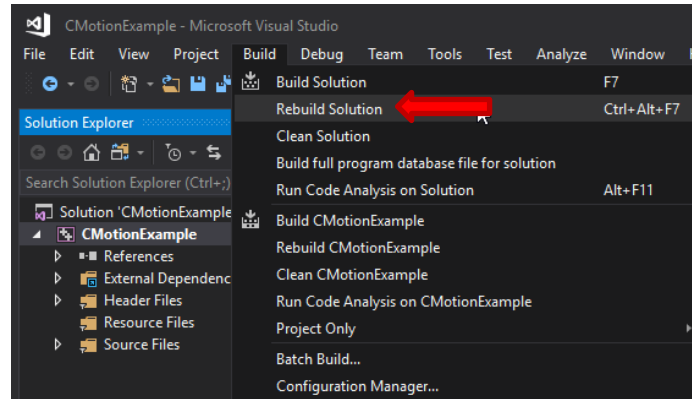

Figure 55 - VS2017 Rebuild
- 7) Build the solution to ensure that everything has linked correctly per Figure 55 - VS2017 Rebuild